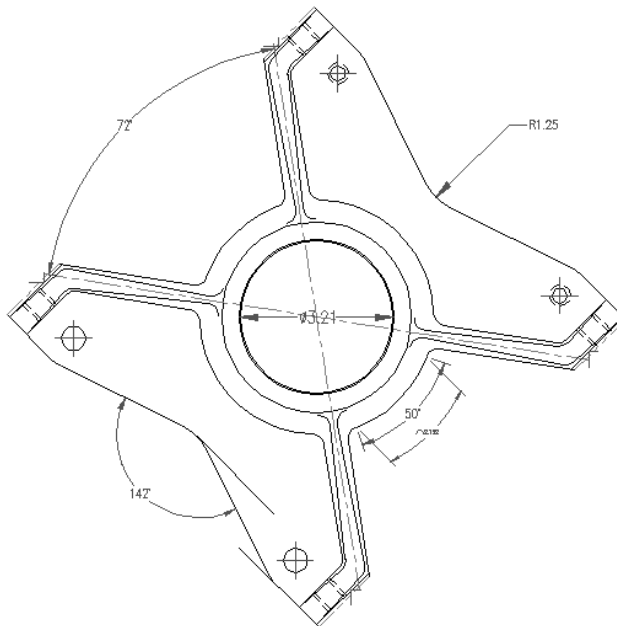

Figure 14-19: The bearing housing with center marks, radial and diameter dimensions, arc length, and angular dimensions.
10. Save your drawing. It should look like Figure 14-19.